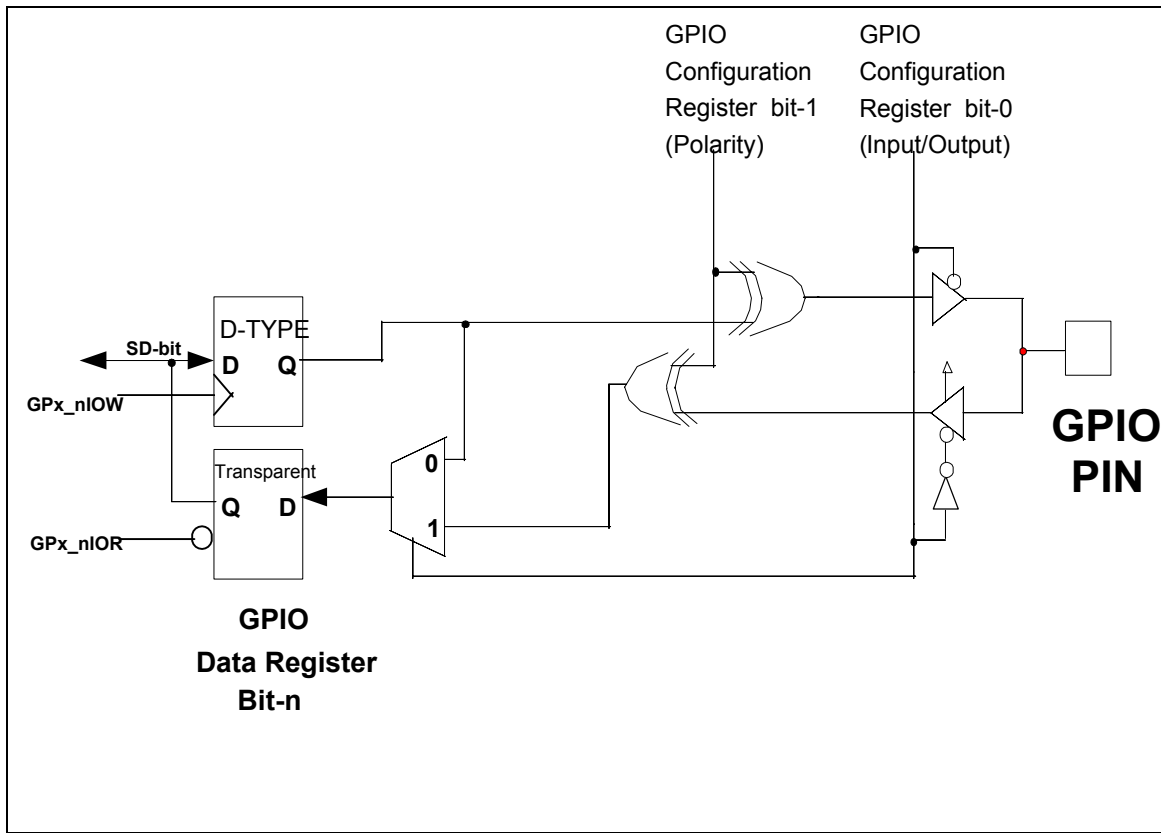

FIGURE 7 - GPIO FUNCTION ILLUSTRATION
The operation of the GPIO ports is illustrated in FIGURE 7.
**Note:** FIGURE 7 is for illustration purposes only and is not intended to suggest specific implementation details. When the following functions are selected, the associated GPIO pins have bi-directional functionality: